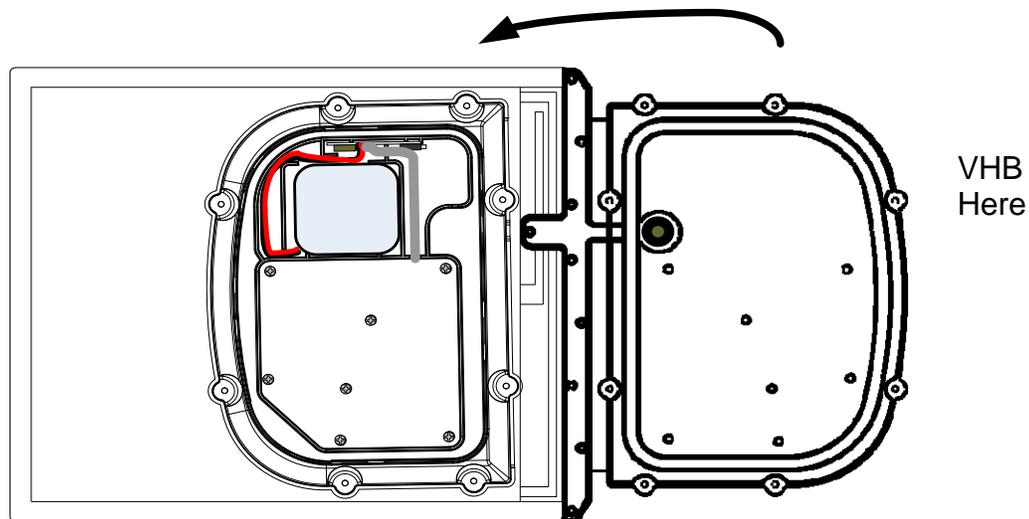

Figure 6.3
7.2. To install battery assembly place battery in the cavity as shown in Figure 6.6 Note the wire dress may be different than the battery removed. The wiring from the battery to the battery circuit card assembly shall be dressed so that a service loop is provided and there is no strain on the wiring when the battery and CCA are properly positioned. Reference Figures 6.3 and 6.5.4.
7.2.6. Lay the EM so it is positioned IAW Figure 6.3